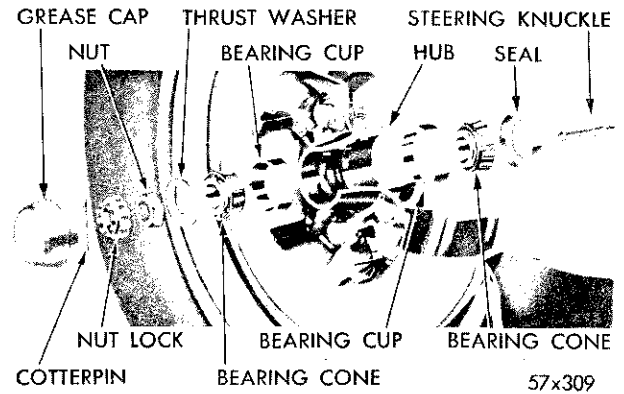

Fig. 12—Front Wheel Bearing Adjustment
(1) Remove the drum and remove the inner oil seal and bearing (Fig. 12). Invert the drum, then using a suitable drift, drive the outer bearing race from the drum. (Driving slots are machined in the drum for this operation).
(2) Again invert the drum and drive out the inner bearing race.
(3) Clean the drum and bearings, using a suitable solvent, then blow dry with compressed air. **(Do not spin bearings with air pressure.)** Check the bearings for pits or brinelling. Install new bearings as required.